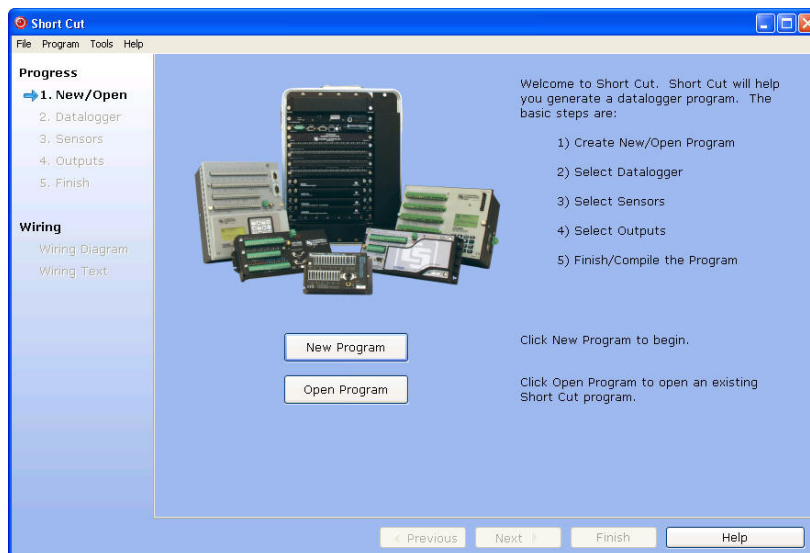

FIGURE 4-3. 03002 mounted to CM200-Series Crossarm with
- 17953 1 x 1 inch NU-RAIL Crossover Fitting (FIGURE 4-3)